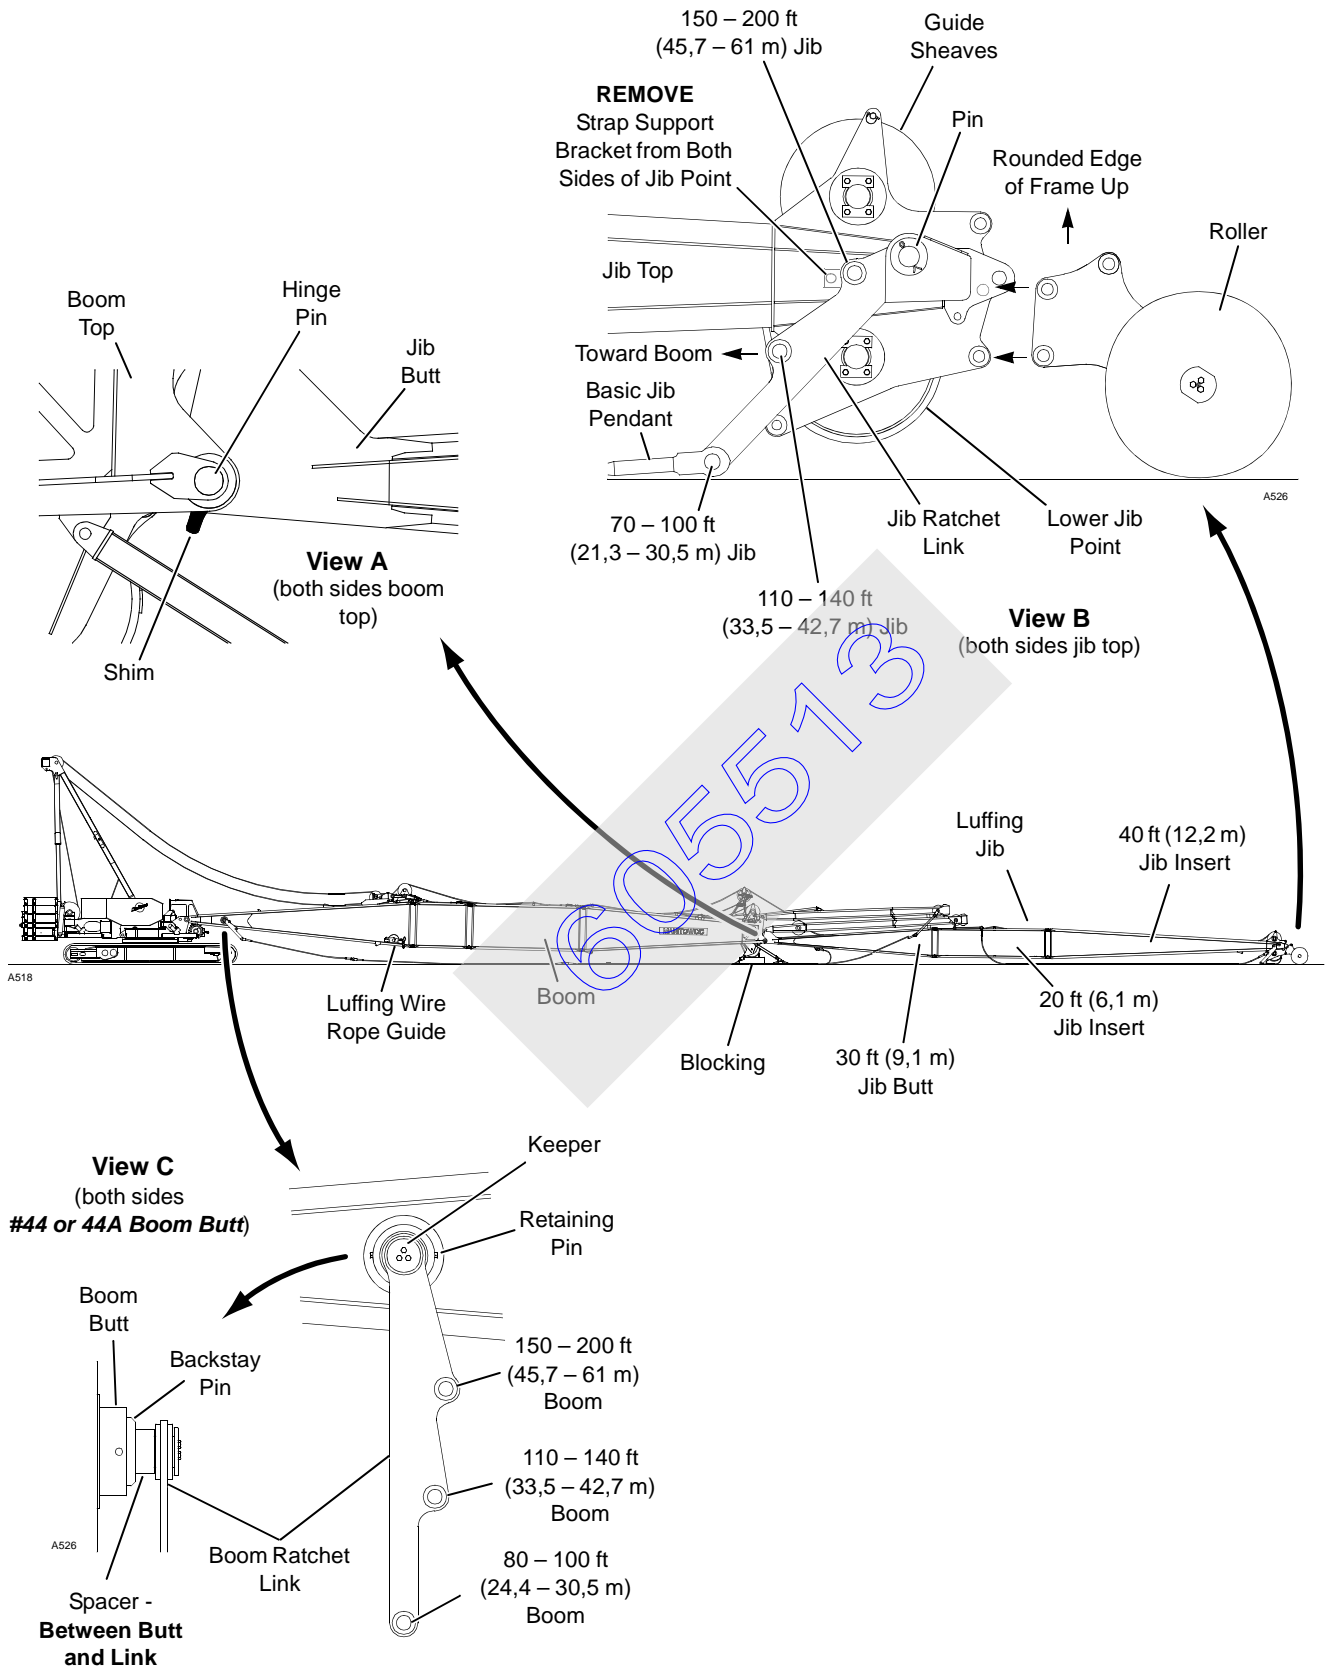

FIGURE 4-8
See Figure 4-8 for following procedure.
1. Pin upper point roller assembly to jib top at holes indicated in Figure 4-8, View B.
1. Remove strap support (Figure 4-8, View B) from both sides of jib point. **Supports will be damaged if this step is not performed.**
2. Pin a ratchet link to lugs on both sides of jib top (Figure 4-8, View B).
1. Pin basic jib pendants to proper hole in ratchet links on jib top (Figure 4-8, View B).
2. Install a ratchet link on each backstay pin (Figure 4-8, View C).